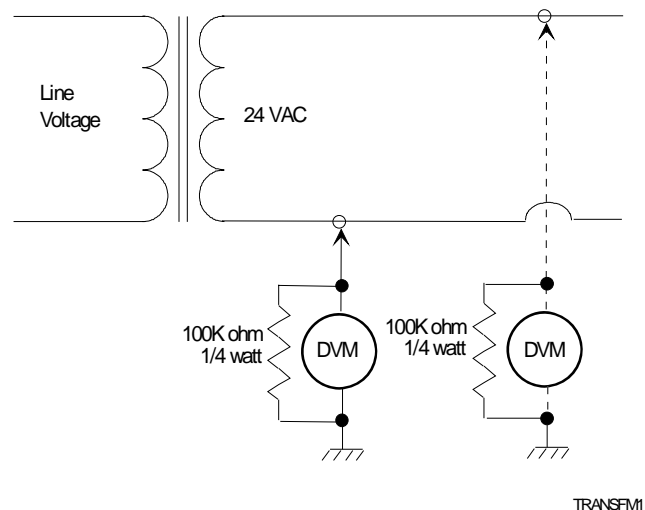

Figure 39: Testing the Transformer
- Measure the voltage of each secondary transformer lead to earth ground with the DVM in parallel with a 100k ohm 1/4 watt resistor (Figure 39; if using double banana plug, insert plug into DVM).